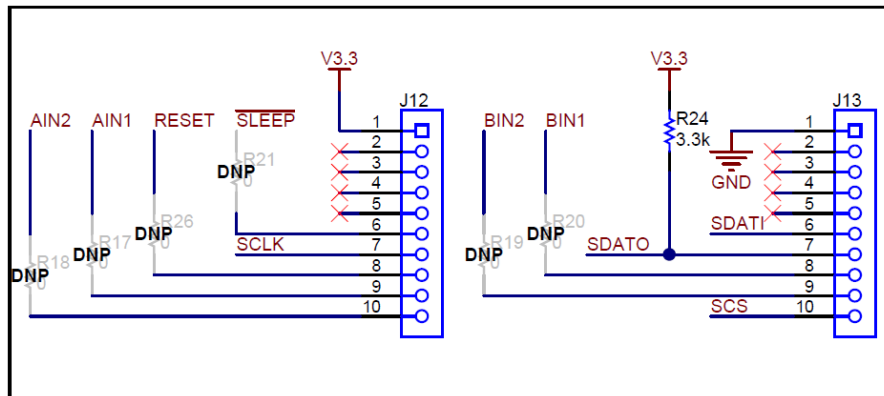

Figure 4. LaunchPad Headers
3. Next, locate the solder pads for R17, R18, R19, R20, R21, and R26 as shown in Figure 4. These pads need to be connected using 0-Ω, 0402 package resistors in order to control the DRV8704 using just an MCU.